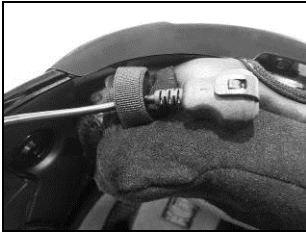

Fig. 20
- Pass the USB mini wire through the elastic band found on the comfort padding (Fig. 20).